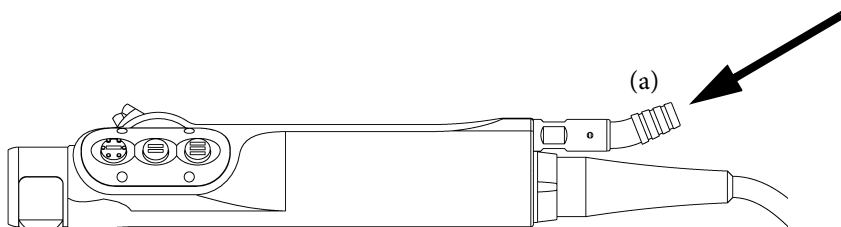

Figure 5: Connecting suction tubing
1. Connect a suction tube to the suction-tubing connector (a) on the handpiece (see Figure 5). The tube should overlap all of the ridges on the connector.